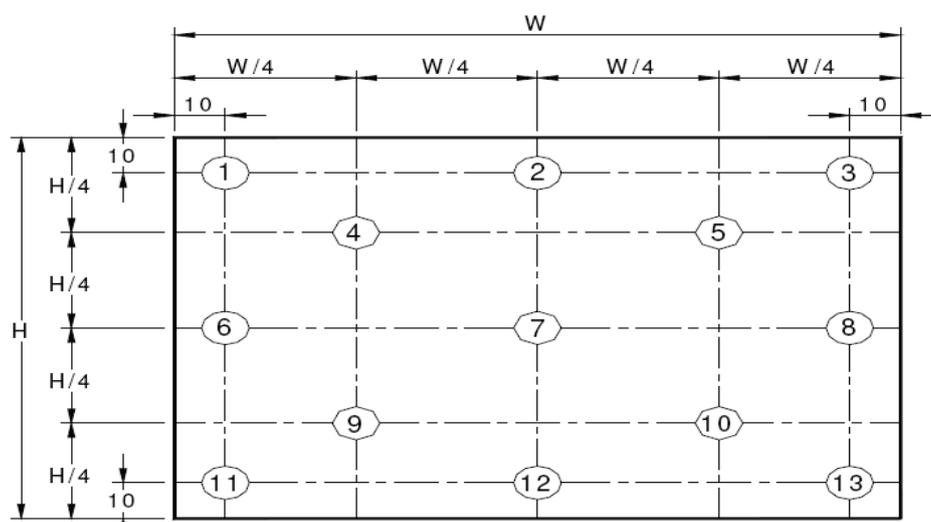

Figure 9. Uniformity Measurement Locations (13 points)
4. The White luminance uniformity on LCD surface is then expressed as :  $\Delta Y = \text{Minimum Luminance of 5(or 13) points} / \text{Maximum Luminance of 5(or 13) points.}$ (see Figure 8 and Figure 9).
The White luminance uniformity on LCD surface is then expressed as :  $\Delta Y_5$  = Minimum Luminance of five points / Maximum Luminance of five points (see Figure 8) ,  $\Delta Y_{13}$  = Minimum Luminance of 13 points /Maximum Luminance of 13 points (see Figure 9).